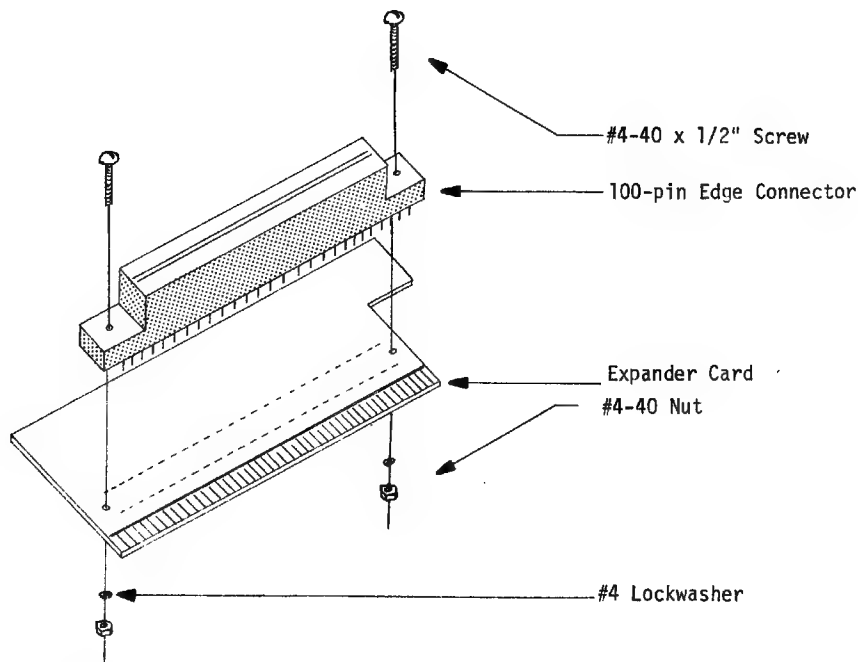

Figure 3-11. Installation of 100-pin Edge Connector onto Expander Card
A. Installation of 100-pin Edge Connector onto Expander Card (Figure 3-11)